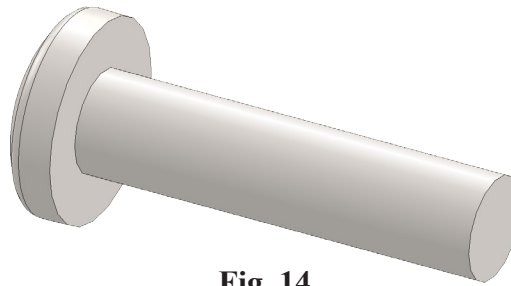
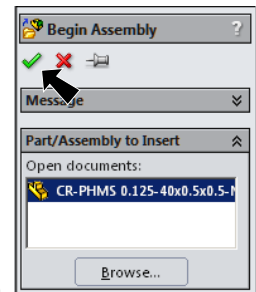

Fig. 14
Fig. 13
Step 3. Click OK  in Begin Assembly Property Manager, **Fig. 13** and **Fig. 14**.